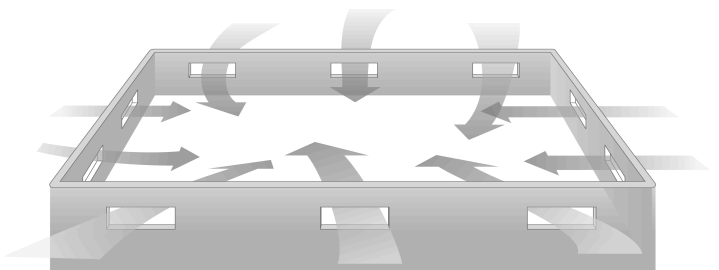

Figure 1
- Crawl space must be a minimum of 24" (600 mm) from the ground to underside of joists. A ground cover of 6-8 mil black polyethylene film is essential as a vapor barrier with joints lapped six inches and taped. The crawl space should have perimeter venting equal to a minimum of 1.5% of the crawl space square footage. These vents should be properly located to foster cross ventilation (see figure 1).